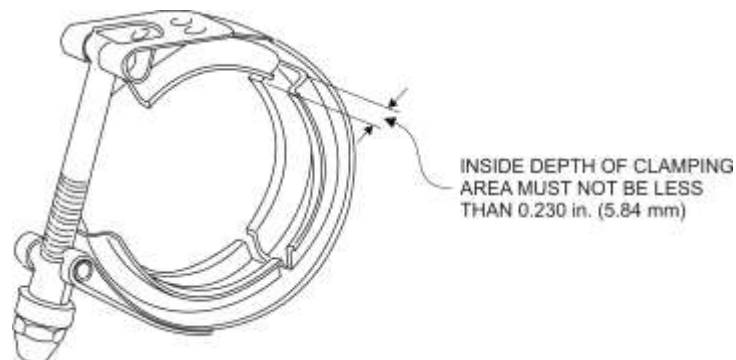

Figure 6
- J. Examine the V-band sections of each coupling with a depth micrometer. Refer to Figure 6. Make sure there are no dimensions less than 0.230 in. (5.84 mm) on the V-band parts. If a dimension is less than 0.230 in. (5.84 mm), discard and replace the coupling. Never use the defective coupling again.